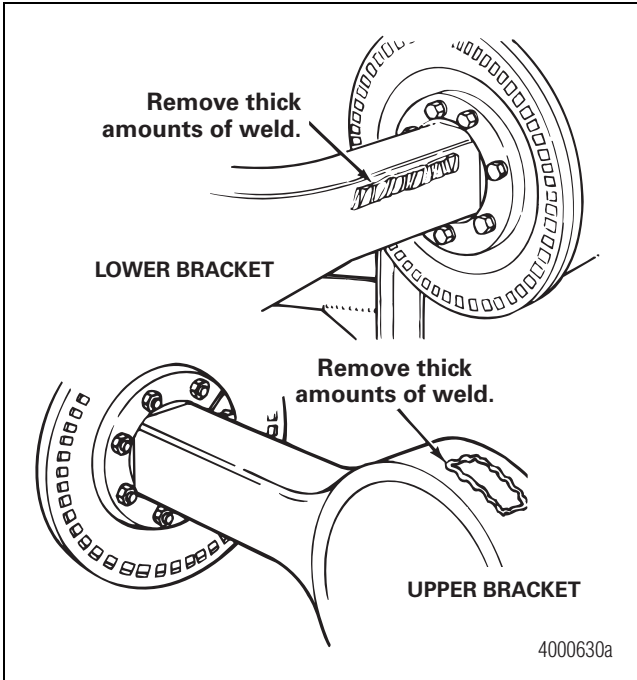

Figure 3.9
5. Remove any thick amounts of weld material that remain on the housing with arc gouging or rough grinding. Figure 3.9.